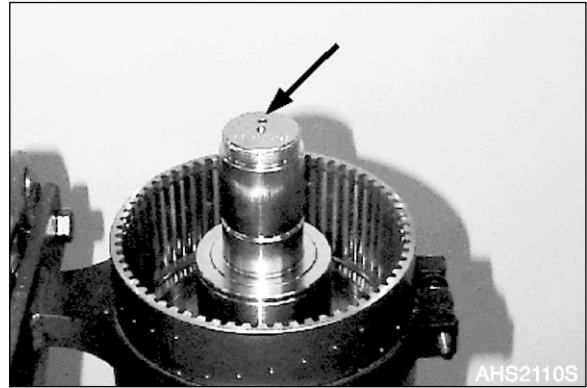

Figure 251
1. Lift plate carrier, with the KV-side facing downward, into the clamping ring (S) and secure it.
3. Insert both roll pins (6x24 and 3.5x24) flush-mounted into the end face-side bore of the plate carrier (Figure 251).